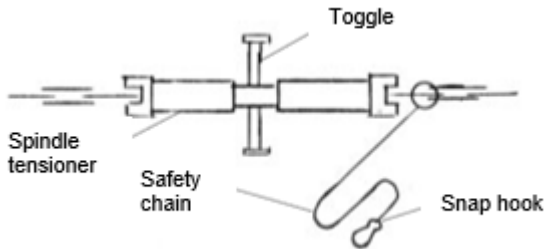

Fig. 1: PowerLash SP
- Safety chains must be wrapped around tensioning devices (figs. 1 to 4).